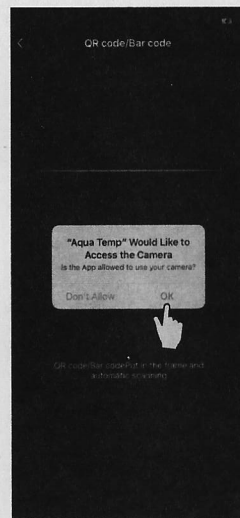
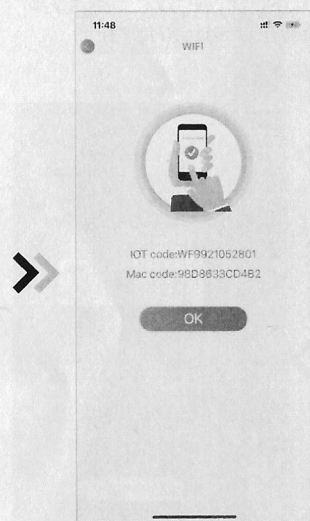

Fig. 15 Scanning interface
Fig. 16 Bond device done interface
5. Click "OK" to allow this APP to use the camera for scanning the barcode on heat pump unit (Fig. 15); click "OK", device bond is done (Fig. 16);